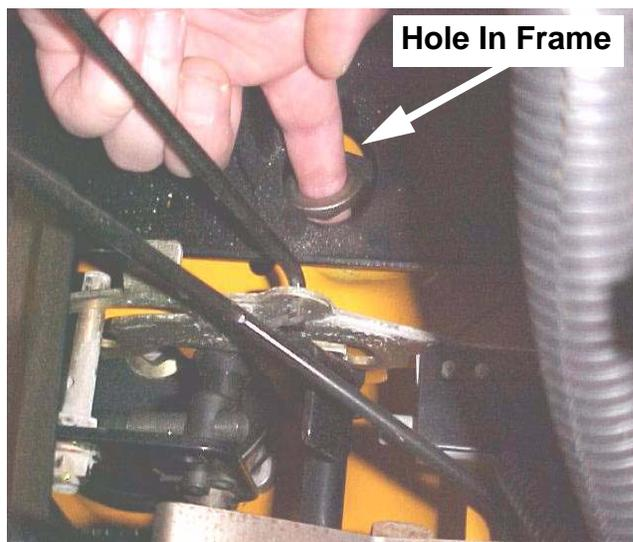

FIGURE 4
23. Remove the Hex Flange Bearing from the Steering Support Bracket through the hole in the frame as shown in Figure 4. Discard the Hex Flange Bearing.